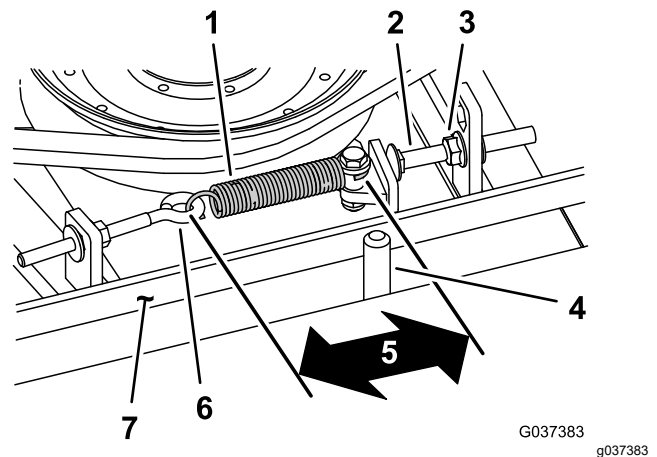

Figure 80
When properly tensioned, the inside measurement of the extension spring (hook to hook) should be approximately 8.3 to 9.5 cm (3-1/4 to 3-3/4 inches). Once the correct spring tension is attained, adjust the stop bolt (carriage bolt) until there is approximately 2 to 5 mm (0.065 to 0.185 inch) clearance between the head of the bolt and the idler arm (Figure 80).
**Note:** Ensure that the belt is positioned on the spring side of the belt guide (Figure 80).
- Loosen the eye bolt allowing the removal of the extension spring (Figure 80).
- Loosen the flange nut securing the stop bolt to the mounting tab and move the idler pulley away from the belt to release the belt tension (Figure 80).
- Connect the extension spring (Figure 80) to the eye bolt and tension the belt as follows: